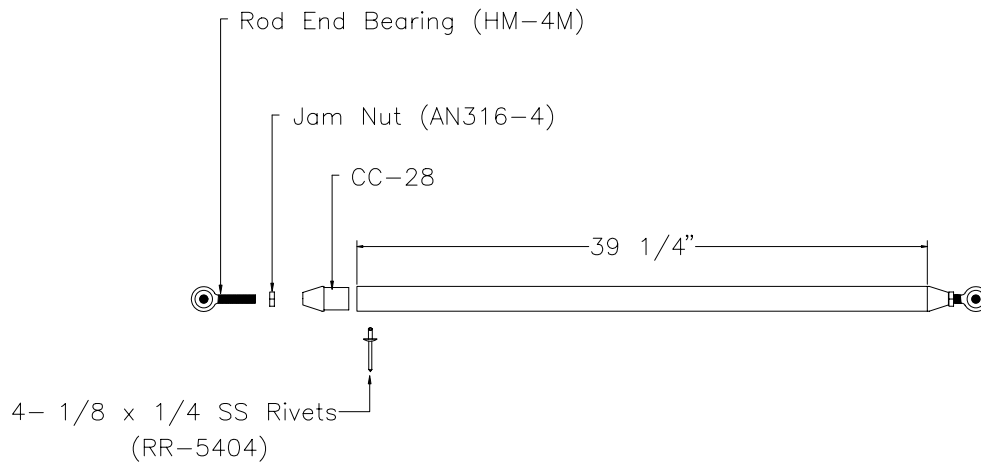

Figure 15.9.1
- 1) Cut a push-pull tube from 1" x .058" tube (CC-50) to fit between the bell crank (CC-47-2) and mixer (CC-48-2). Figure 15.9.1.